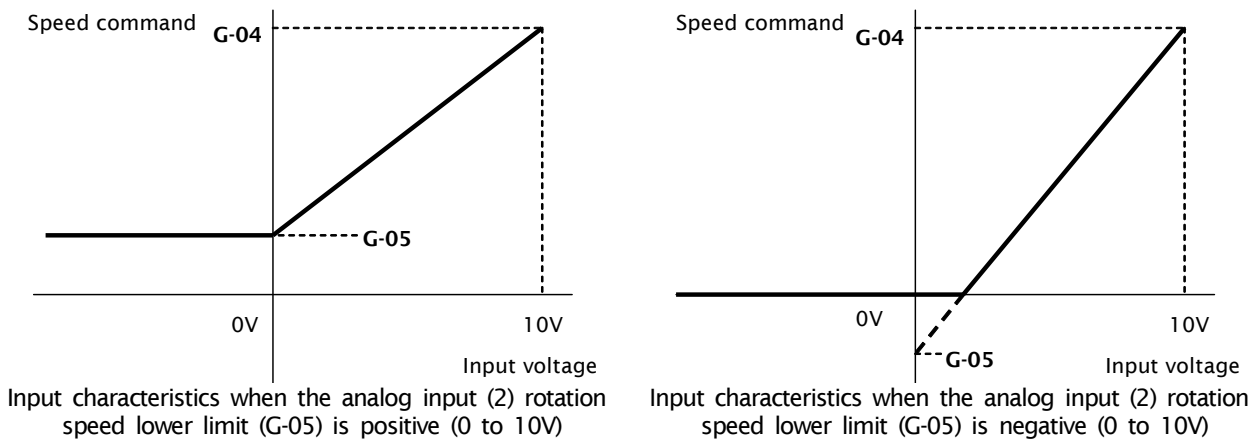

Figure 5.3 Speed command characteristics with voltage input of 0 to 10V
The rotation speed command value is set as the analog input (2) rotation speed lower limit (G-05) when the input is 0V. When the input is 10V, it is set as the analog input (2) rotation speed upper limit (G-04). However, this will be set to “0” if the analog input (2) rotation speed lower limit (G-05) has a negative value. (Figure 5.3) If the minimum rotation speed (A-01) is other than “0”, the rotation speed command absolute value is controlled to prevent falling below the minimum speed. As a speed command, this only allows forward operation. For reverse operation, a reverse operation command should be used.